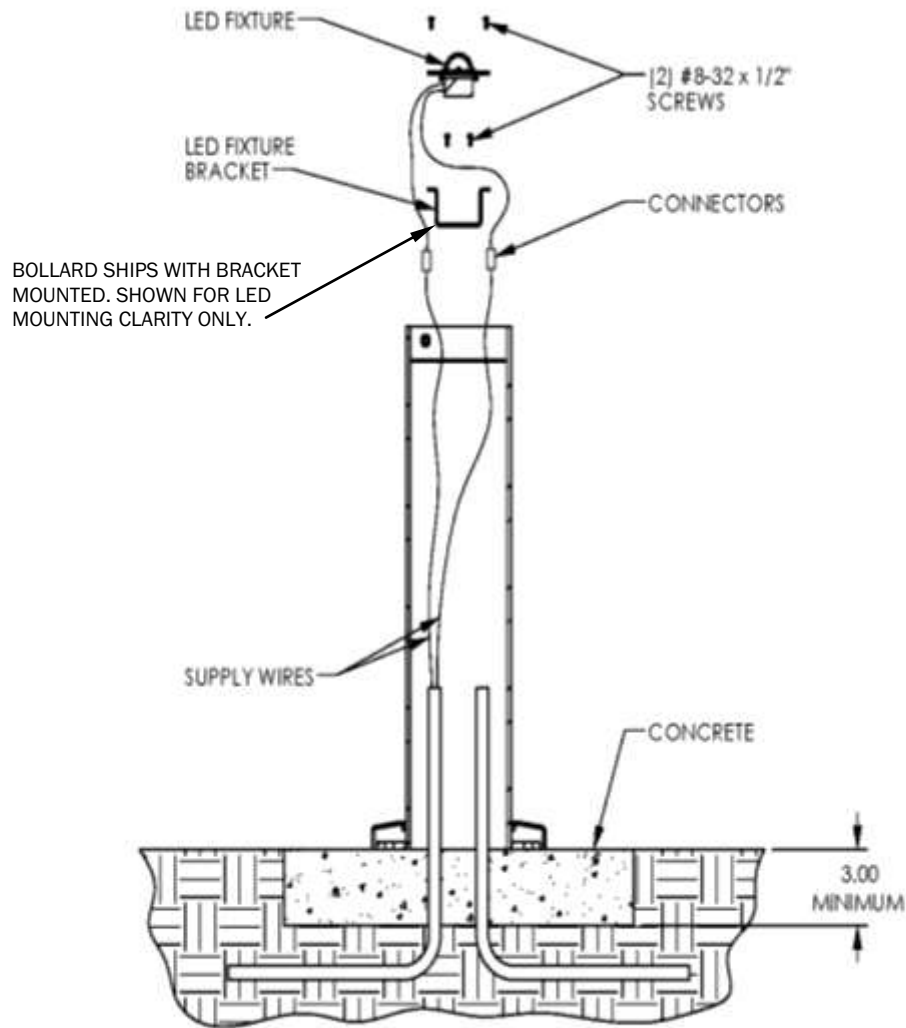

Figure 2.
8. Feed fixture wire into Bollard, (see Figure 2) and using two 8-32 X 1/2" button head cap screws attach LED light Assembly to retainer bracket, tighten securely.